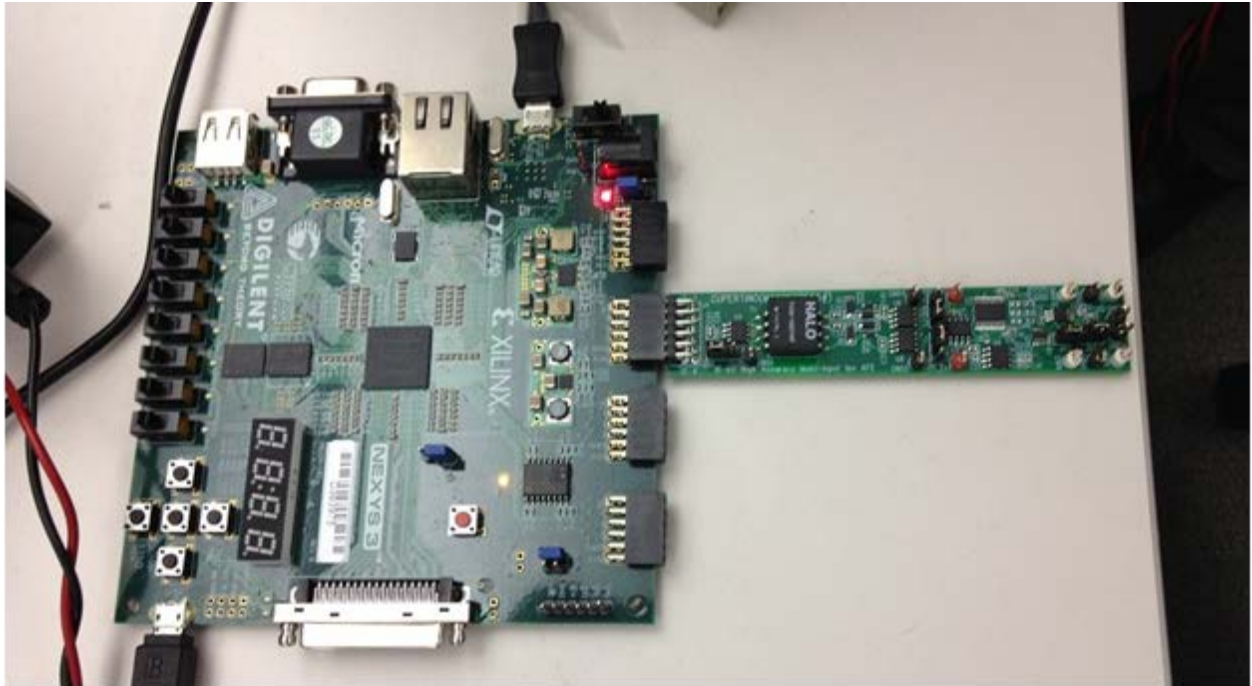
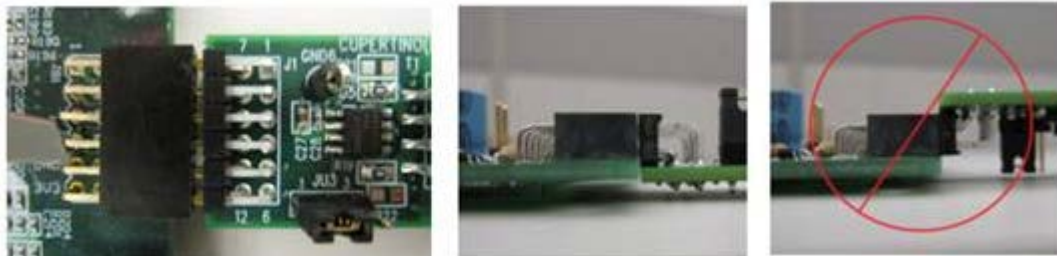

Figure 1. Board Connected to Nexys 3 Development Kit
Figure 2. Pmod™ Connector Alignment
- 1) Connect the Fresno board to the JB1 port of a Nexys 3 development kit as shown in Figure 1. Ensure the connector is aligned as shown in Figure 2.
1. Connect the Fresno board to the JB1 port of a Nexys 3 development kit as shown in Figure 1. Power up the Nexys 3 development kit. The Fresno board is completely powered from the Nexys 3 development kit and no external power is required.